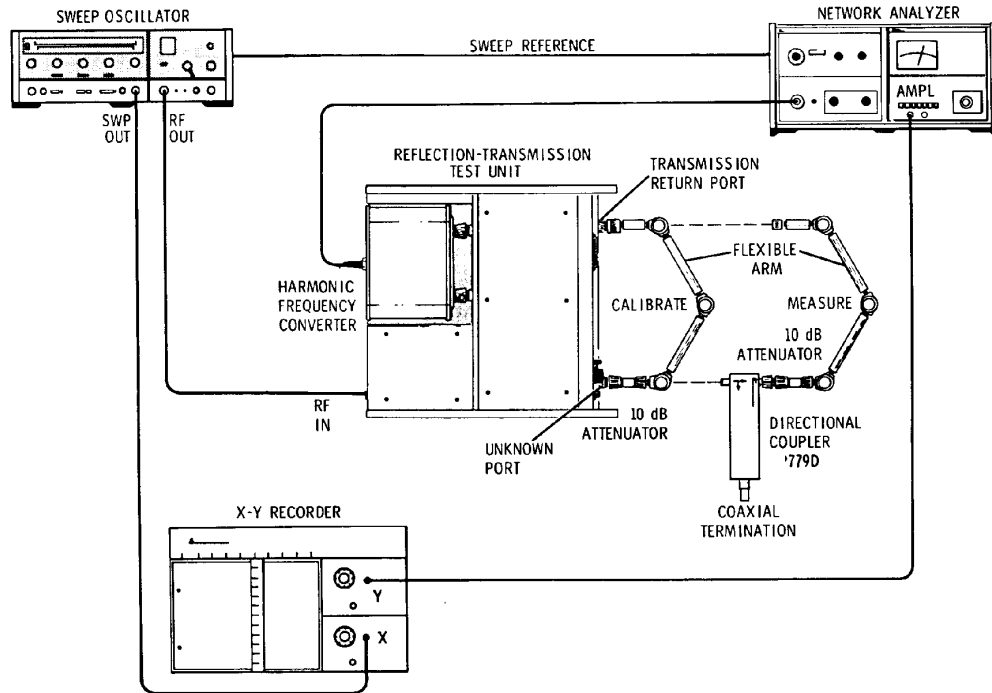

Figure 9 Coupling
| Description | Refer to Figure 9 for Test Setup and Table 5 for Test Equipment. |
1. Connect the equipment as shown in Figure 9, Coupling Test Setup.